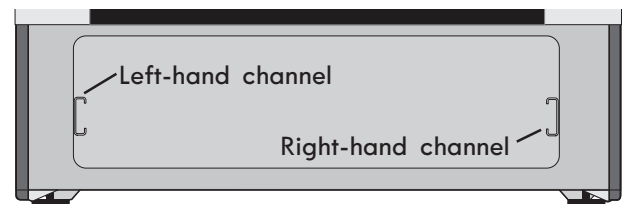

Figure 53: Channel alignment
2. Carefully line up both sides of the warmer drawer glide rails to the outer compartment glide channels located inside the empty warmer drawer compartment (See Figure 53).